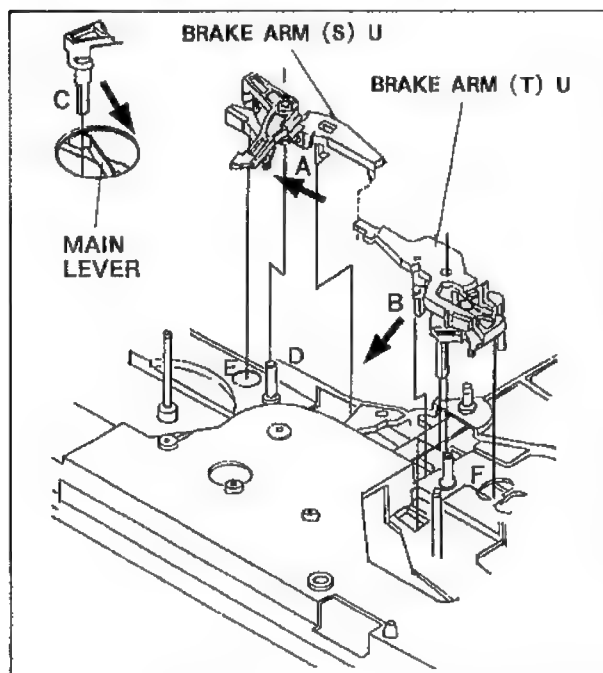

Fig.M9
1. Unlock the locking tab (A) to direction of arrow mark and lift up the Supply Brake Arm Unit.
2. Unlock the locking tab (B) and lift up the Take-up Brake Arm Unit.
3. Both Brake Arm Units can be reinstalled by reversing the removal procedure. However the boss (C) of the Supply Brake Arm Unit insert to hole (E) of mechanical chassis while pushing the Main Lever to direction of arrow mark as shown in Fig.M9. (expanded view)